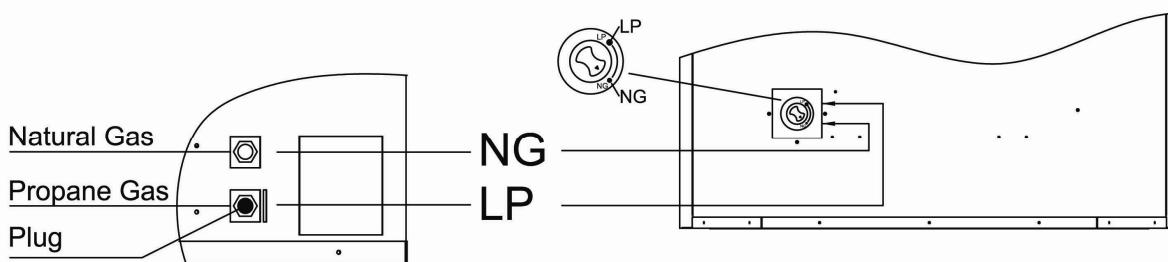

Figure 14
2. For NATURAL GAS, press in knob using a flat screw driver with a blade the width of a quarter and turn knob clockwise ↘ until the knob locks into the NG position (see Figure 14). Selection valve must be locked into the NG position. Do not operate heater between locked positions!